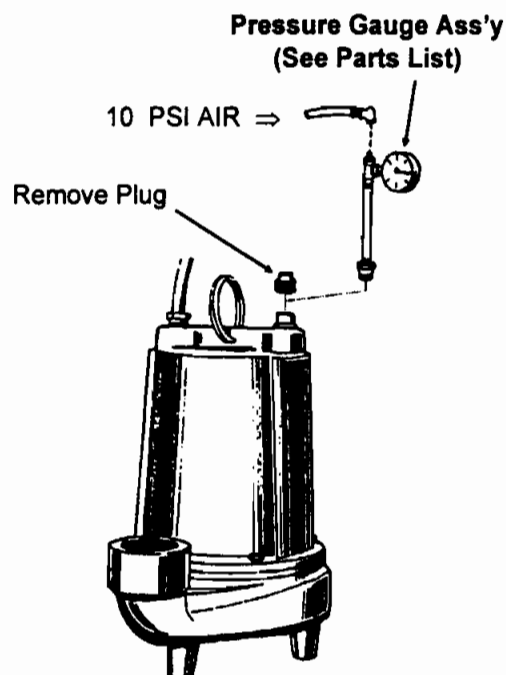

Fig. 2
Motor Housing- Before checking the pump for leaks around the shaft seal, square rings, and cord inlet, the oil level should be full as described in section F-1.3. Remove pipe plug (2) or (36) from motor housing (3). Apply pipe sealant to pressure gauge assembly and tighten into pipe plug hole (see Fig. 2). Pressurize motor housing to 10 P.S.I. Use a soap solution around the sealed areas and inspect joints for "air bubbles". If, after five minutes, the pressure is still holding constant, and no "bubbles" are observed, slowly bleed the pressure and remove the gauge assembly. Replace the pipe plug using a sealant. If the pressure does not hold, then the leak must be located.